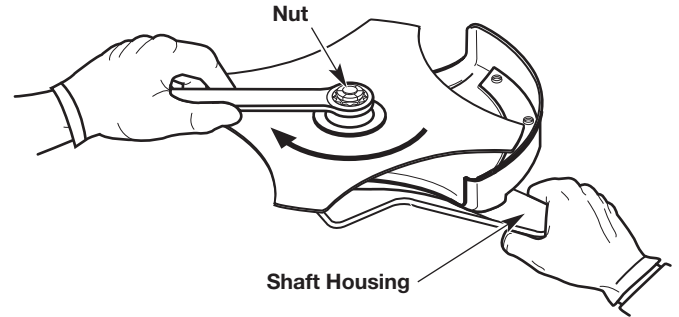

Fig. 11
3. Hold the locking rod in place by grasping the other end against the shaft housing (Fig. 11).
4. While holding the locking rod in place, unscrew the nut by turning it clockwise with a wrench (Fig. 11).